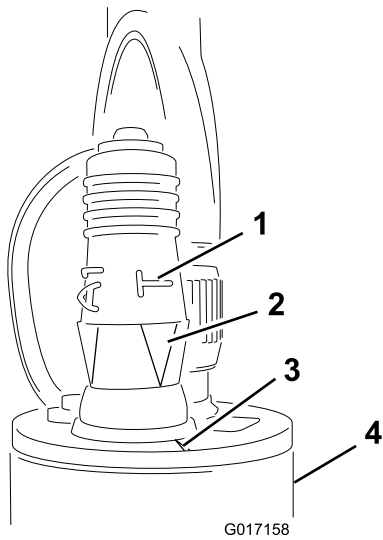

Figure 22
3. Install the programming plug on the sensor (Figure 22).
Important: Ensure that you align the arrow below the sideways “T” with the notch on the top edge of the sensor (Figure 22).